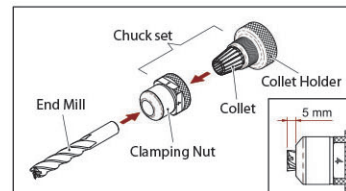

Fig. 2-2
3. Screw in a little bit by clamping nut, then insert end mill shank into the clamping nut until the end mill tip is about 5 mm out of the clamping nut (Fig. 2-2), slightly screw the chuck set to tighten the end mill a little bit.